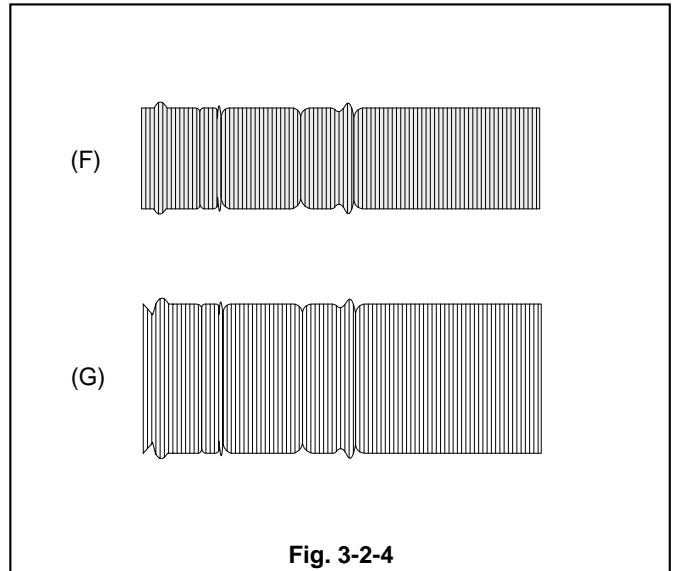

Fig. 3-2-4
4. If the amplitude level of the FM Waveform is low as in (F) in Fig. 3-2-4, set it at the maximum level as in (G), according to the following procedure. Loosen the Screws D and E and insert a screw driver (+) into the Hole in the MAIN PLATE ASSY (Part A). Then, move the A/C PLATE to the right and left to set the amplitude level to maximum.